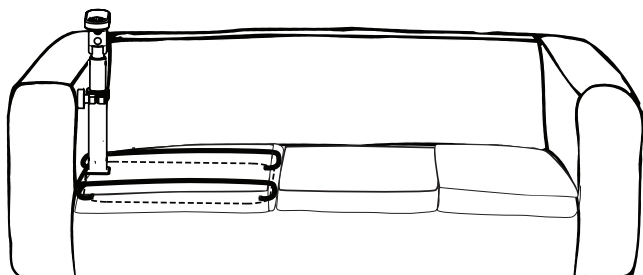

Fig. 2.8
- Secure mounting accessory straps around frame or cushion if possible. (See Fig. 2.8)